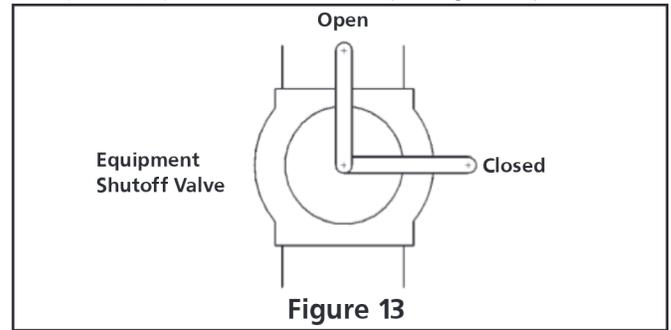

Figure 13
1. Close equipment shutoff valve (see figure 13)
3. Open equipment shutoff valve (see figure 13).